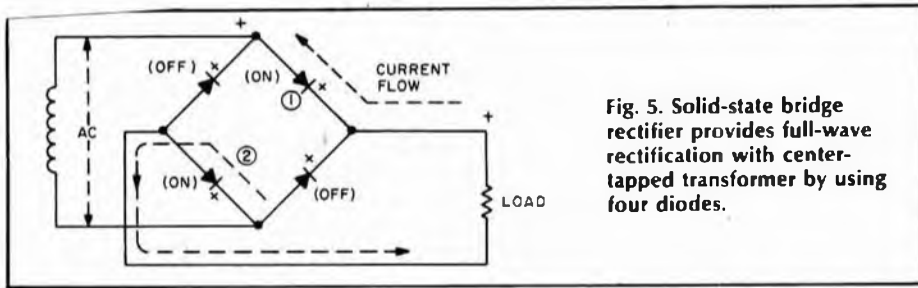

Fig. 5. Solid-state bridge rectifier provides full-wave rectification with center-tapped transformer by using four diodes.
**Bridge Rectifiers.** Another common arrangement is the full-wave bridge (Fig. 5). Though it uses four diodes, it offsets this disadvantage by an ability to produce the same output as a regular full-wave supply without a centertapped
The net effect is a total voltage across the load which is about equal to the applied AC. We've shown how it occurs for diodes 1 and 2 in the diagram (Fig. 5) but a comparable action occurs in the other diodes when the AC switches polarity.